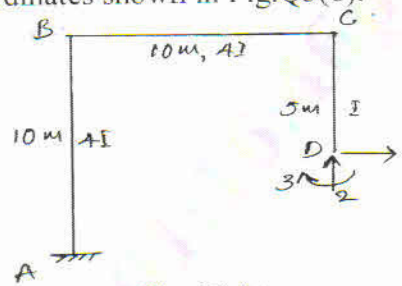

Fig.Q3(b)
- b. Using the transformation approach, develop the global flexibility matrix for the portal frame with respect to the system coordinates shown in Fig.Q3(b). (10 Marks)